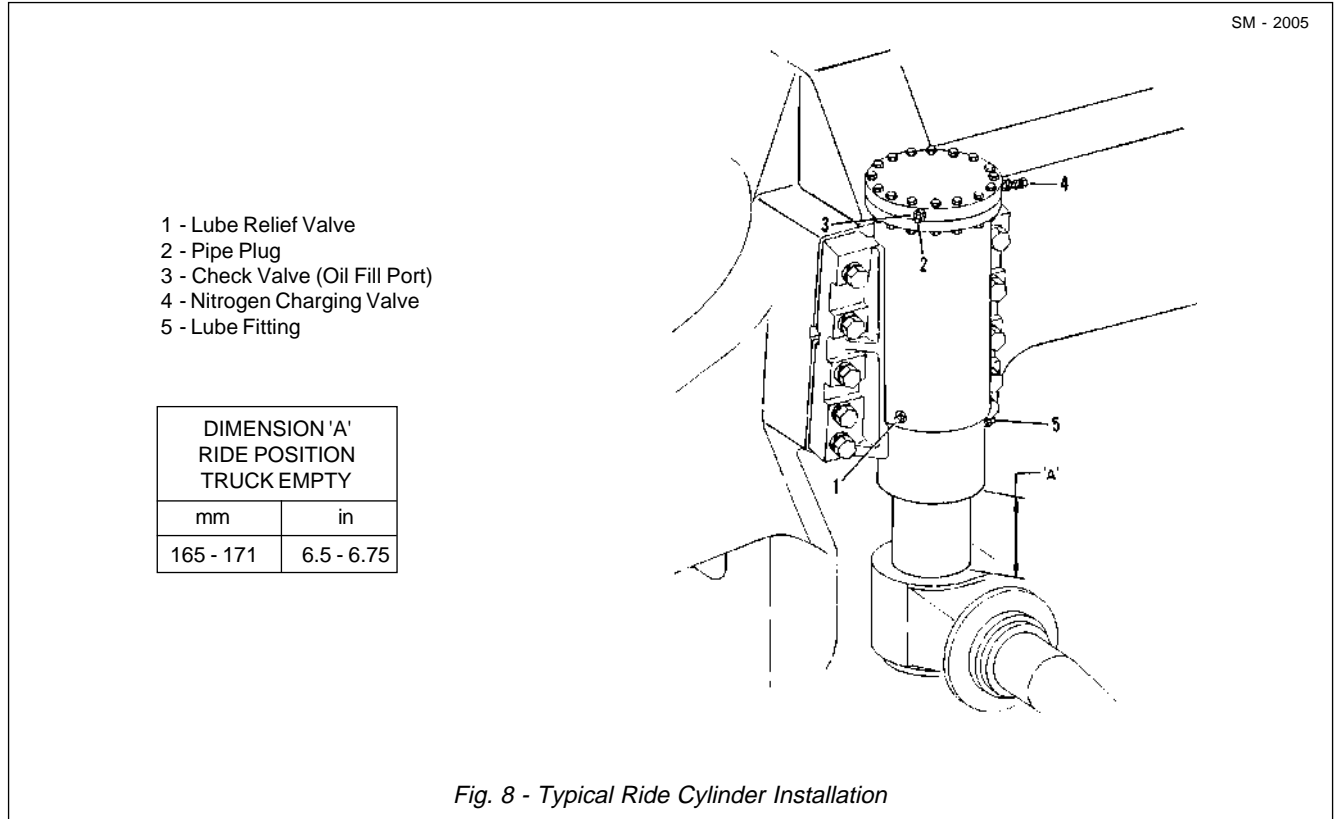

Fig. 8 - Typical Ride Cylinder Installation
Numbers in parentheses refer to Fig. 8.
Numbers in parentheses refer to Fig. 8, unless otherwise specified.
7. Close tank valve (6, Fig. 9) and open cylinder valve (4, Fig. 9). Charge both cylinders to height 'A', shown in Fig. 8, by opening tank valve (6, Fig. 9) slowly and closing it occasionally. To check pressures in the cylinders, close tank valve (6, Fig. 9) and note the reading on pressure gauge (5, Fig. 9).
**Note:** The cylinder should be charged to the height shown in Fig. 8 and **MUST NOT** be over charged above the recommended height. Overcharging can cause the cylinders to over extend, thus damaging the piston retaining bolts.
**Note:** The cylinder charging pressure shown in the following chart is for REFERENCE only. Cylinders should be charged according to the height specified in Fig. 8 and **NOT** solely on the basis of monitoring cylinder pressure.
8. When height 'A' (Fig. 8) has been reached, close valve on the nitrogen bottle and tank valve (6, Fig. 9) securely. Turn small hex on nitrogen charging valves (4) clockwise to close valves internally. Rotate 'T' handles of valve chucks (2, Fig. 9) anticlockwise until they stop.
**Note:** On new or rebuilt cylinders, the seals and wipers may grip the piston rods tighter and make it difficult to obtain the correct height shown in Fig. 8. If this happens, the cylinders should be charged as accurately as possible, the vehicle operated for several days, and then the cylinder checked.
10. Check nitrogen charging valves (4) for leakage with soapy water. If either core is leaking, depress it quickly once or twice to reseal the core. If leakage persists, replace core. Tighten charging valve lock nut and replace valve cap. Tighten valve cap so that it cannot be removed by hand.